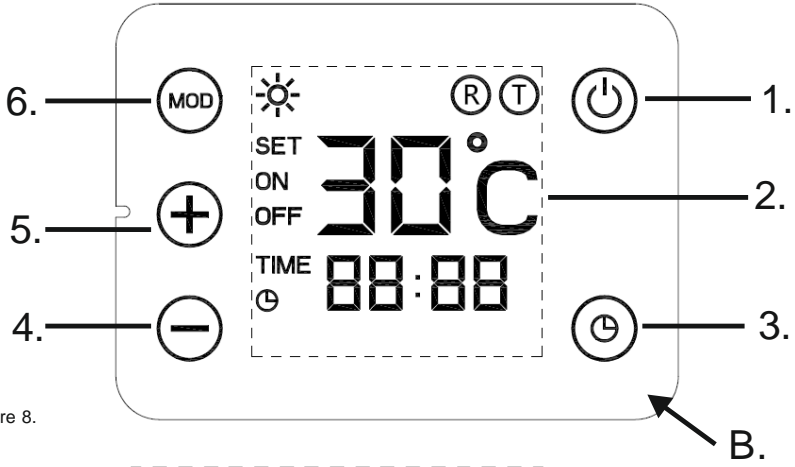

Figure 8.
Description of the control panel (B) - look at Figure 8
Description of the LED display (2) - see figure 8